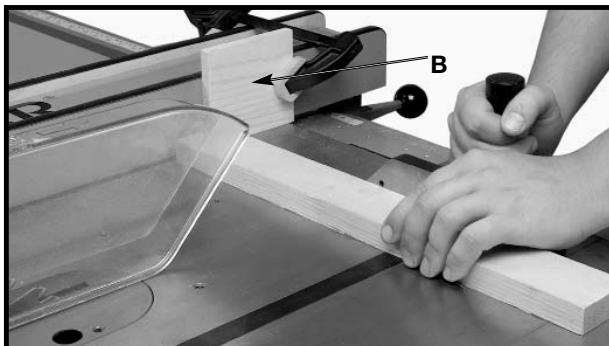

Fig. 46A
When cross-cutting a number of pieces to the same length, a block of wood (B) Fig. 46A can be clamped to the fence and used as a cut-off gage. It is important that this block of wood always be positioned in front of the saw blade as shown. Once the cut-off length is determined, secure the fence and use the miter gage to feed the work into the cut. This block of wood allows the cut-off piece to move freely along the table surface without binding between the fence and the saw blade, thereby lessening the possibility of kickback and injury to the operator.
CAUTION WHEN USING THE BLOCK (B) FIG. 46A, AS A CUT-OFF GAGE, IT IS VERY IMPORTANT THAT THE REAR END OF THE BLOCK BE POSITIONED SO THE WORK PIECE IS CLEAR OF THE BLOCK BEFORE IT CONTACTS THE BLADE.